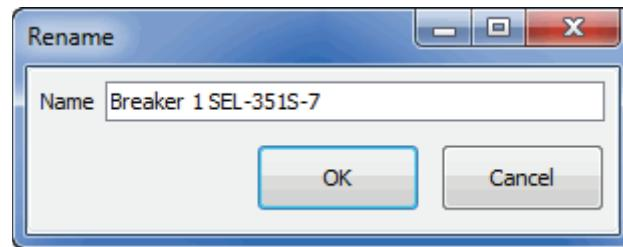

Figure 45 Rename Connection
- Step 10. Rename the SEL-351S-7 Breaker 1 **SEL-351S-7** as shown in *Figure 45*. Select **OK** to accept the name change.